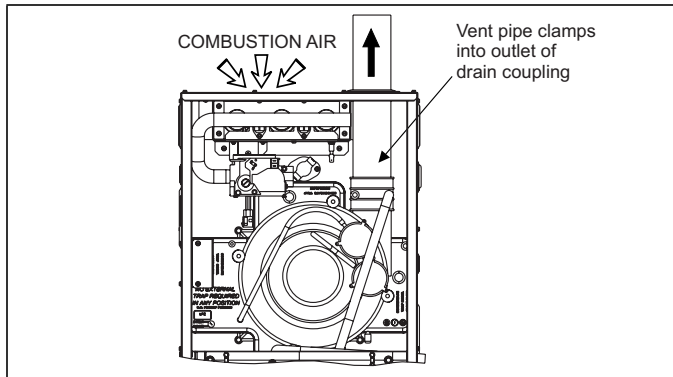

FIGURE 38: Combustion Airflow Path Through The Furnace Casing
2. **AMBIENT COMBUSTION AIR:** Combustion air is supplied from the area surrounding the furnace through openings in the furnace casing. The combustion air and the vent pipes are not terminated in the same atmospheric zone. Refer to Figure 38 for vent terminations. Refer to "Ambient Combustion Air Supply" for proper installation. Refer to Figures 38 and 39.